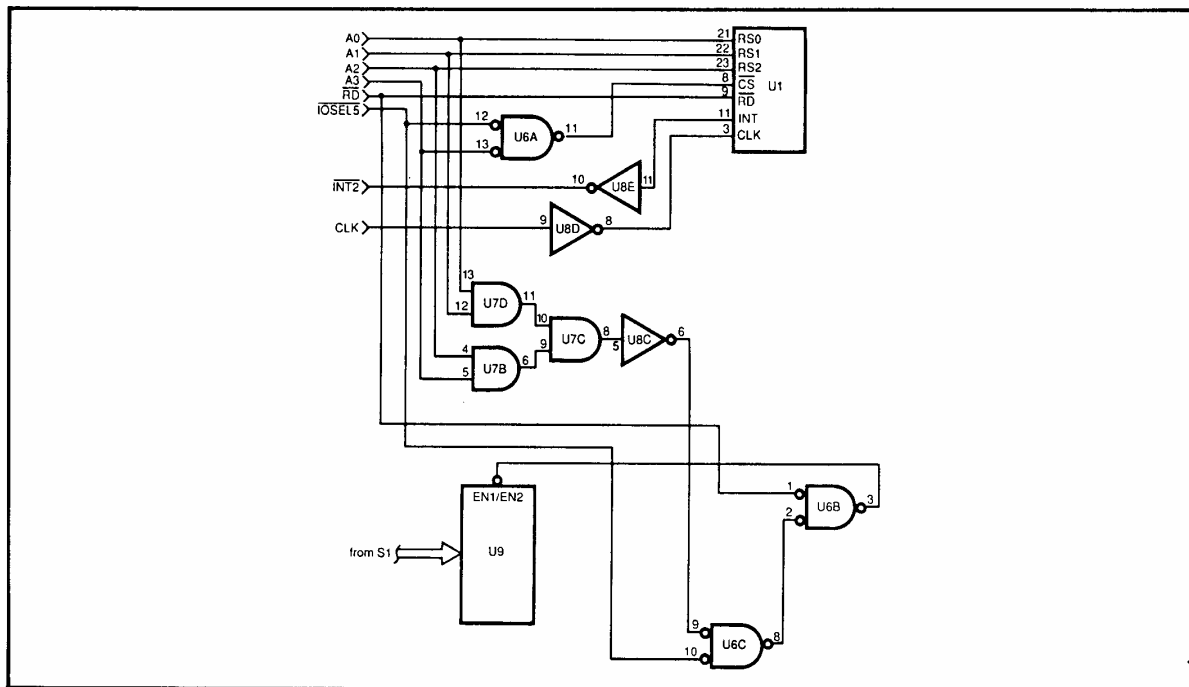

Figure 8-83. Bus Address Circuitry
- c. Bus Address. The 6400's bus address is set using rear panel DIP switch S1. When the 6400 is first turned on, the switch address value is read by the system through data latch U9 (Figure 8-83). Latch U9 is enabled when address lines A0 thru A3 are all logic HIGH (I/O port 05FH) and when $\overline{\text{IOSEL}}_5$ and $\overline{\text{RD}}$ are logic LOW. The A0-A3 address lines are decoded via gates U7B, U7C, U7D, U8C, U6B and U6C. Gate U6A decodes the chip select ($\overline{\text{CS}}$) for U1. Address line A3 is ANDed with $\overline{\text{IOSEL}}_5$ to set the $\overline{\text{CS}}$ line and map the controller into the port space 050H to 057H.